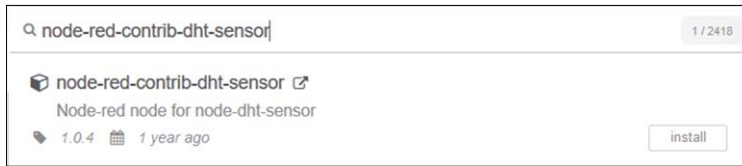

Figure 6.22 Install the DHTxx node
- Enter **node-red-contrib-dht-sensor** and click **install** (see Figure 6.22)